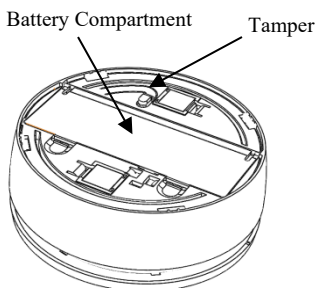

Figure 7
3. Send an allocation message by pressing the tamper contact (*see Figure 7*) for at least 3 seconds (or connect the detector to the mounting bracket) until the system receiver indicates that it has detected the allocation message.